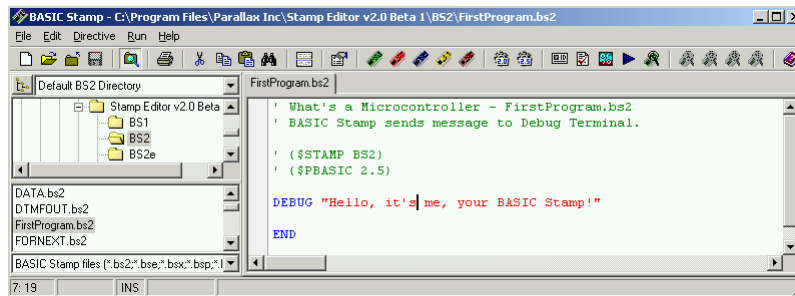

Figure 1-36
- ✓ Type in the remaining 4 lines of the program exactly as shown in Figure 1-36.